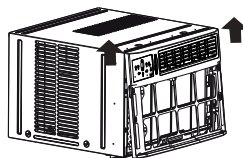

Fig.3A
5. Gently lift front panel off unit (see Fig.3A).